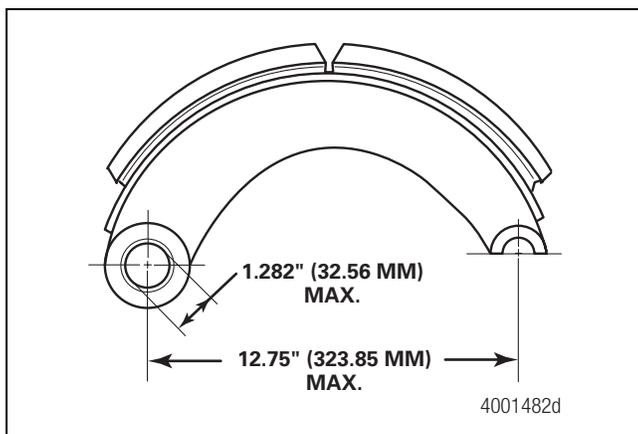

Figure 4.8
8. With the roller and anchor pin installed, measure the distance from the center of the anchor pin hole to the center of the roller slot. Figure 4.8. The distance must not exceed 12.75-inches (323.85 mm). Replace any brake shoes that do not meet measurement specifications.